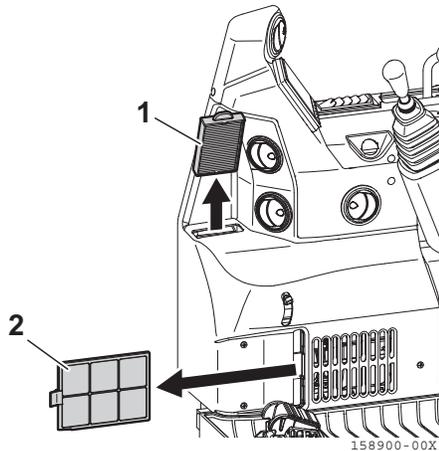

Fig. 8-29
1. Grab the knobs of the outer air filter (**Fig. 8-29, 1**) and the inner air filter (**Fig. 8-29, 2**), then pull them out.
- Inner air filter (**Fig. 8-29, 2**) can be washed off with water after removing dirt. Outer air filter (**Fig. 8-29, 1**) can NOT be washed off with water.